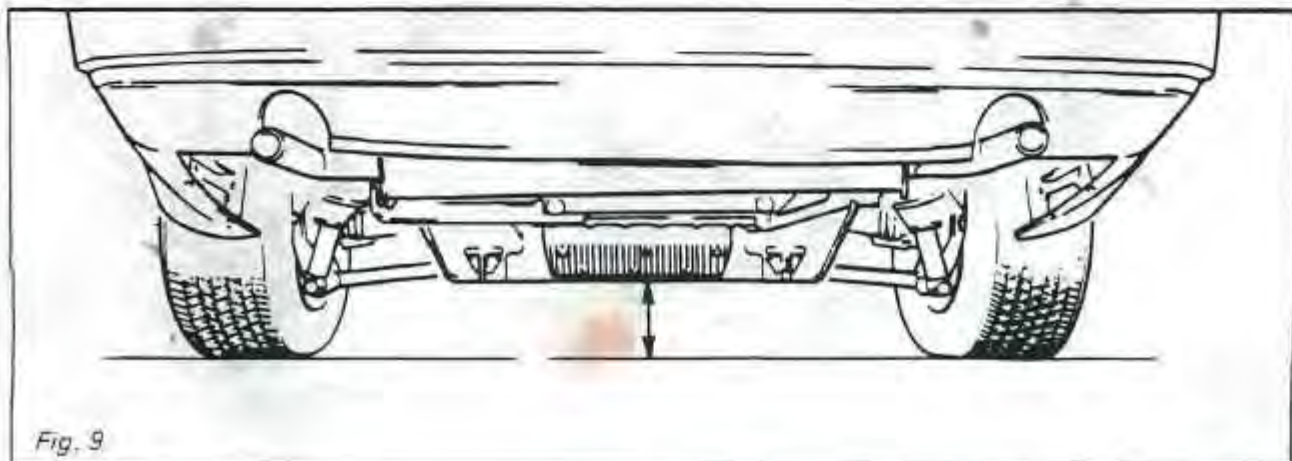

Fig. 9
5. Check and, if necessary, adjust setting height 140 mm (5.5 inches). Fig. 9. This measurement must be taken from the centre of the rear crossmember.